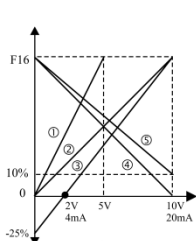

Figure 3
* Please refer to Figure 3 and see the description of parameters along different curves in the table below :